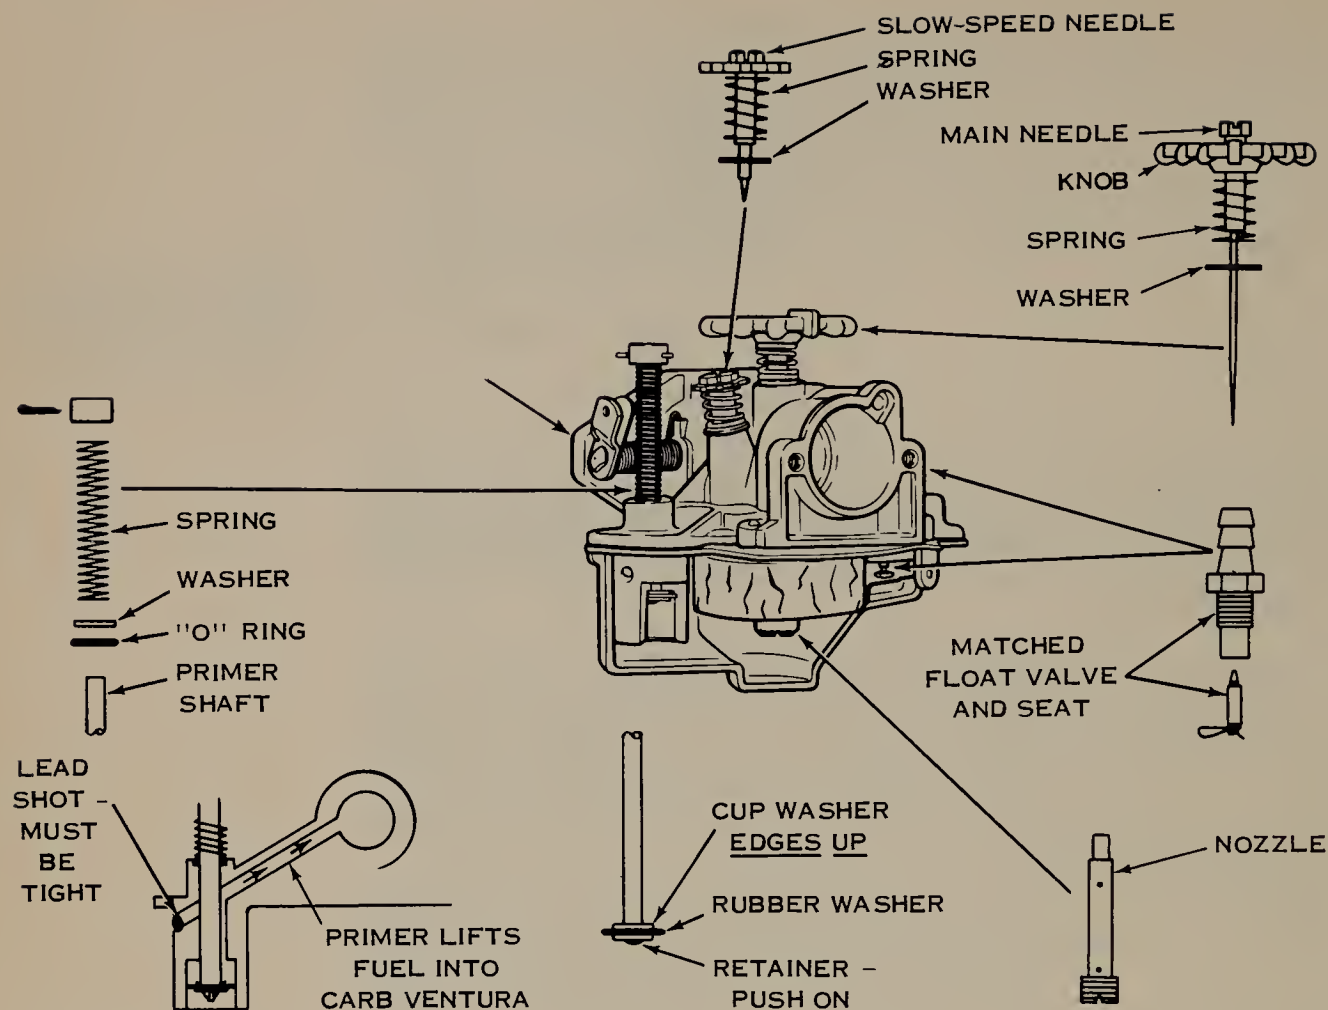

FIGURE 15.11 Disassembled view of a carburetor for a small engine used on a lawn mower. (Lawn Boy Division, Outboard Marine Corporation.)
15.14 Lawn Boy D Engine Carburetor Service. Figure 15.11 shows the carburetor used on this engine with the various serviceable and adjustable parts shown separately. The slow-speed needle is adjusted to provide the proper mixture richness on idle, and the main needle is adjusted to provide the proper mixture richness during full-speed, full-load operation.
You can follow Fig. 15.11 in disassembling the carburetor to replace worn parts. Note that the float valve and seat come in a matched pair and both must be replaced at the same time. Always use all new gaskets when reassembling the carburetor. Also, when installing the nozzle in the carburetor, unscrew the control knob in order to avoid tightening the nozzle against the needle and damaging both.